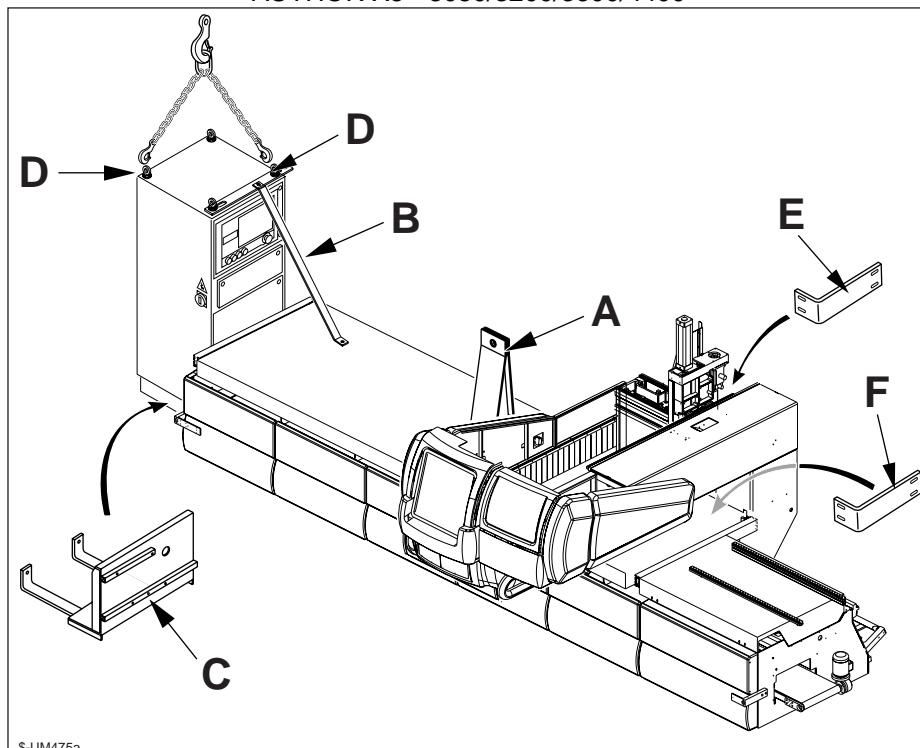

Fig. 2.4
- To support the electrical cabinet use rope or lifting chains connecting them to the eyebolts D (Fig.2.4).